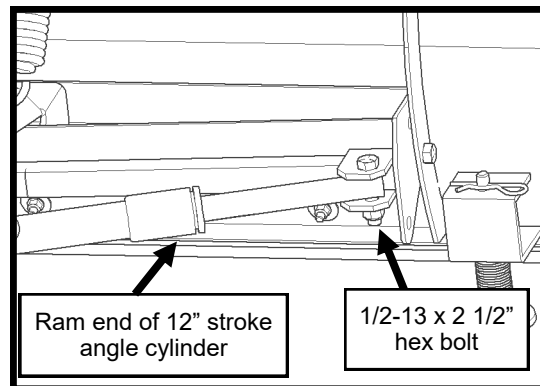

Fig. 5.3—Cylinder Ram End
5.3 Attach the ram end (moveable end) of the angle cylinders between the brackets at the outer ends of the back side of the plow trip frame using 1/2-13 x 2 1/2" bolts. Fasten and tighten fully using 1/2-13 lock nuts. See Fig. 5.3.